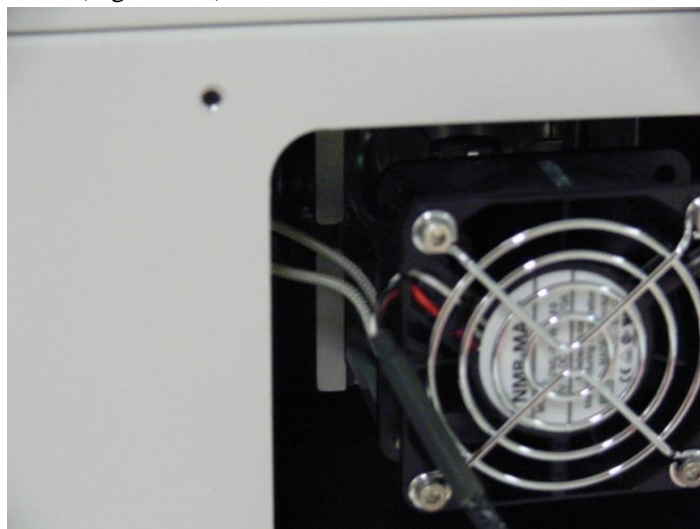

Figure 106. Replacing the lamp assembly.
- f. Now place the fan and lamp assembly back into the instrument, being careful not to trap the white wires (Figure 106).